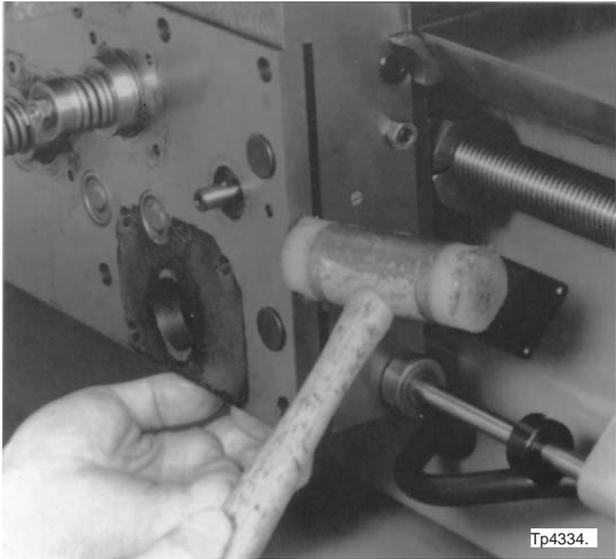

Figure 1.7 - Apron Cover Removal
- a) Pull the cover outward with the left hand while striking the edge of the cover with a soft-faced hammer until a crack appears in the sealant. Refer to Figure 1.7 .